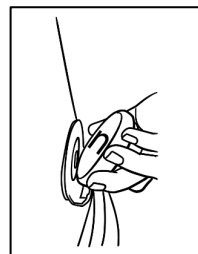

Figure 9 Remove Device
2. Gently lift the Therapy Disc away from the surface of your skin and out of the clip, as shown in Figure 9.